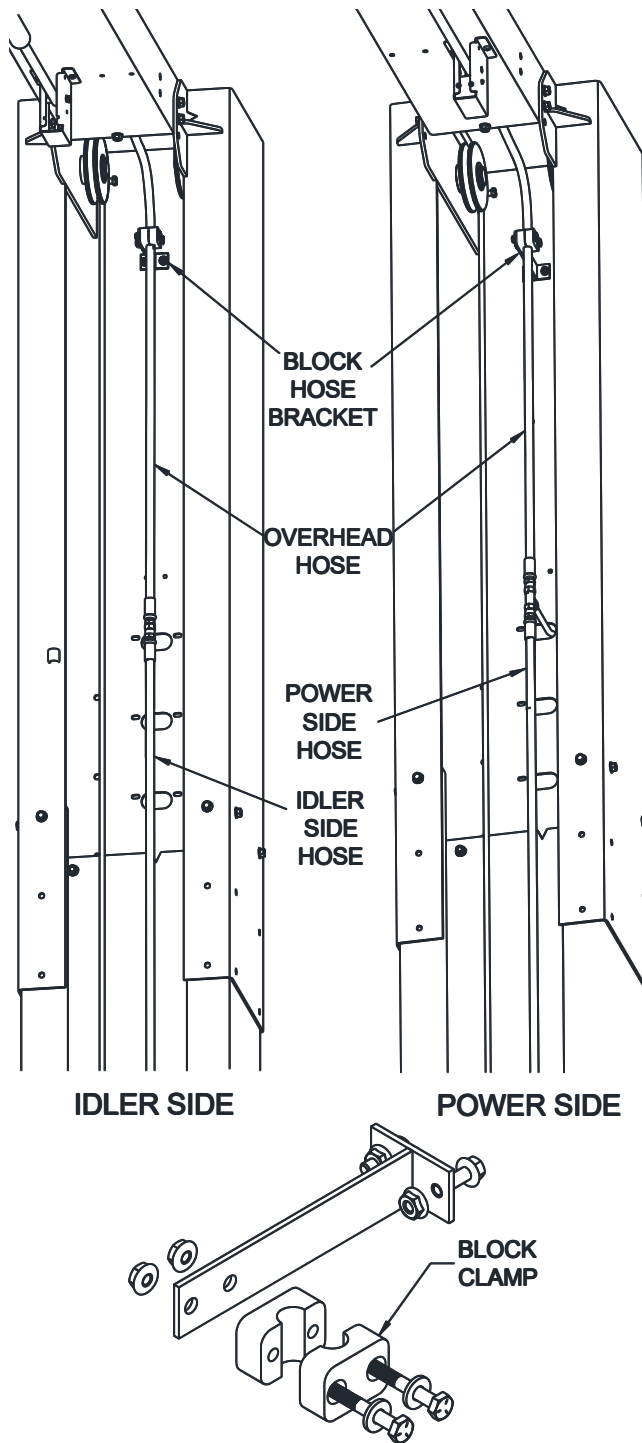

Fig. 12 – Hose Mounting
- 33) Install the block hose clamp bracket onto both column extensions using 1/4" -20NC x 3/4" lg. hex flange bolt and nut, see **Fig 12**.
- 34) Uncoil the Idler Side hose and Overhead hose and attach them together. Route the loose end through Idler Side column extension as shown in Fig 12.
- 42) Tighten the three hose fitting connections at the Tee taking care not to twist or change the lay of any hose. Install and tighten the block clamp on the power side to hold up the connect to the tee, see **Fig 12**.